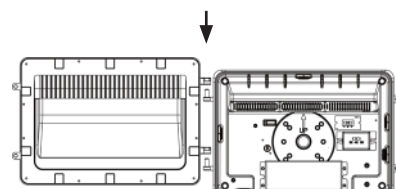
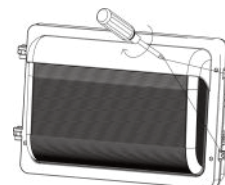

Fig. 1.6
Fig. 1.7
6. Attach the front cover of the luminaire back to the mounting plate (Fig 1.6) and tighten both screws on the side of the luminaire (Fig 1.7).